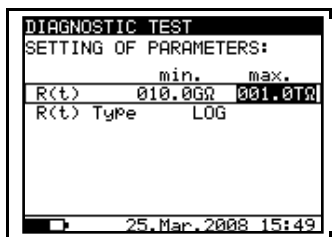

Fig. 21. Set-up menu of the Graph $R(t)$
- Press the **SELECT** key to Set-up the parameters of the **graph R(t)**, see the **Fig. 21**. Press the **ESC** key to return to basic Set-up menu in the **Diagnostic Test** function.